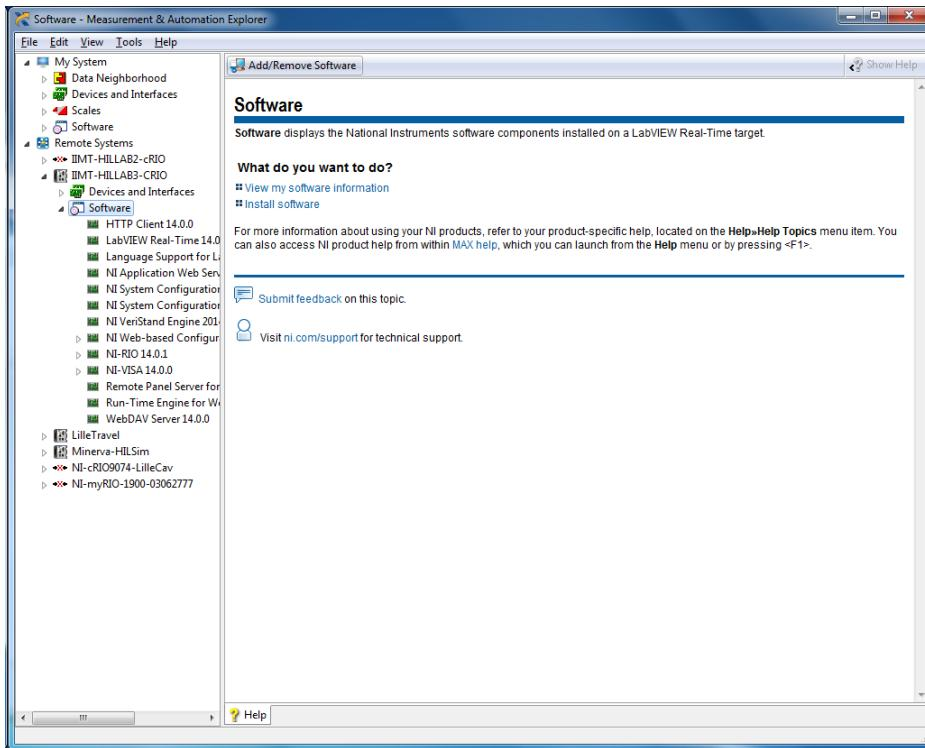

Figure 27: NI MAX - Software Update 1
3. Click Software, and then Add/Remove Software located on the top pane, see Figure 27